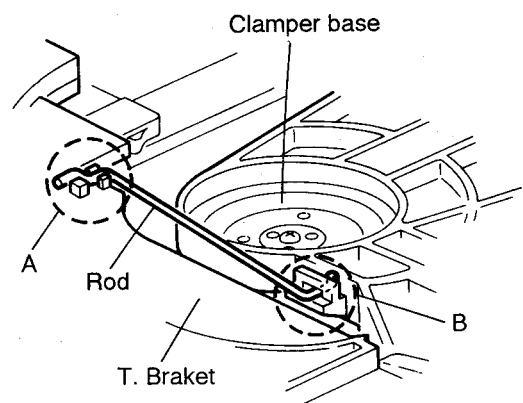

Fig. 5-18
(See Figs. 5-18~5-24)
4. From the T. bracket section (A) and clamber base section (B), remove both of the edges fixing the rod (See Figs. 5-18 and 5-19).
5. Remove the three screws (1) retaining the T. bracket (See Fig. 5-18).